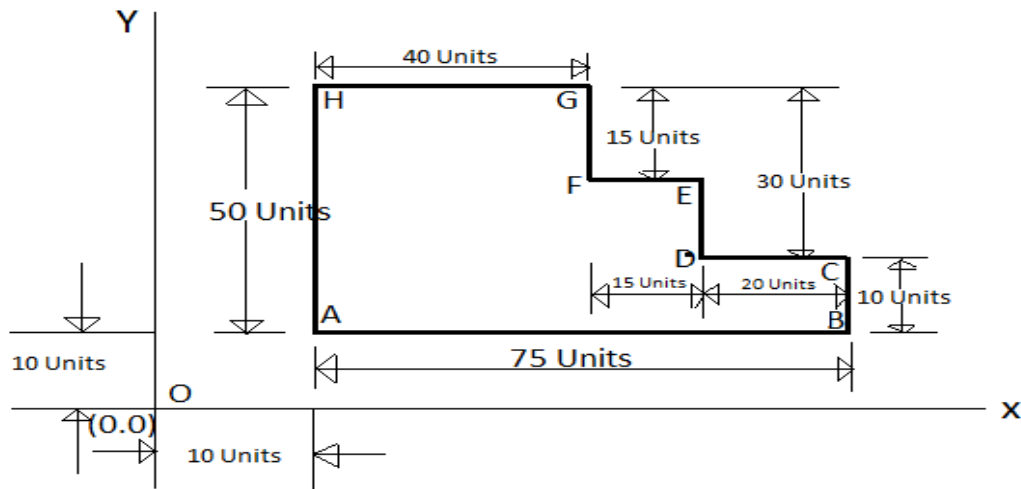

Fig. 1
13. A component shown in fig.1 below is to be machined on a CNC machine along the face ABCDEFGHA. Write the positional commands, if (a) Absolute system is used & (b) Incremental system is used. Assume, path of movement of tool as O-A-B-C-D-E-F-G-H-A-O (O-origin) and 'O' as reference point.